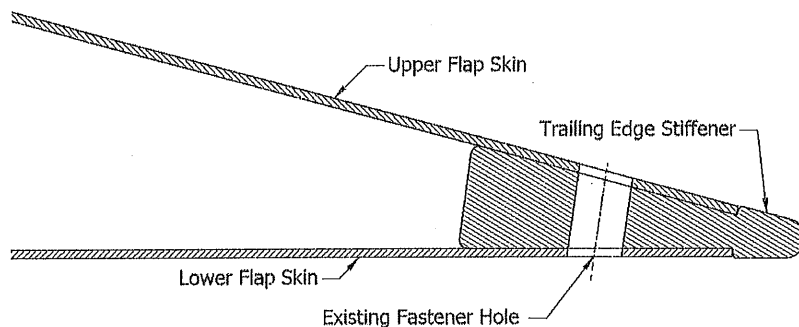

Figure 4. Trailing edge stiffener location.
8. Position Stiffener in flap trailing edge as shown in Figure 4.